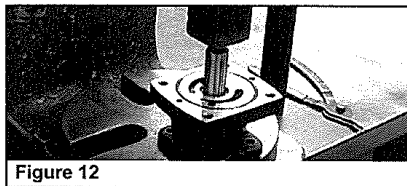

Figure 12
3. Place body in position on arbor press. Threaded portion of the Shaft should be inside the fixture. Press out shaft assembly with arbor press (See Figure 12).